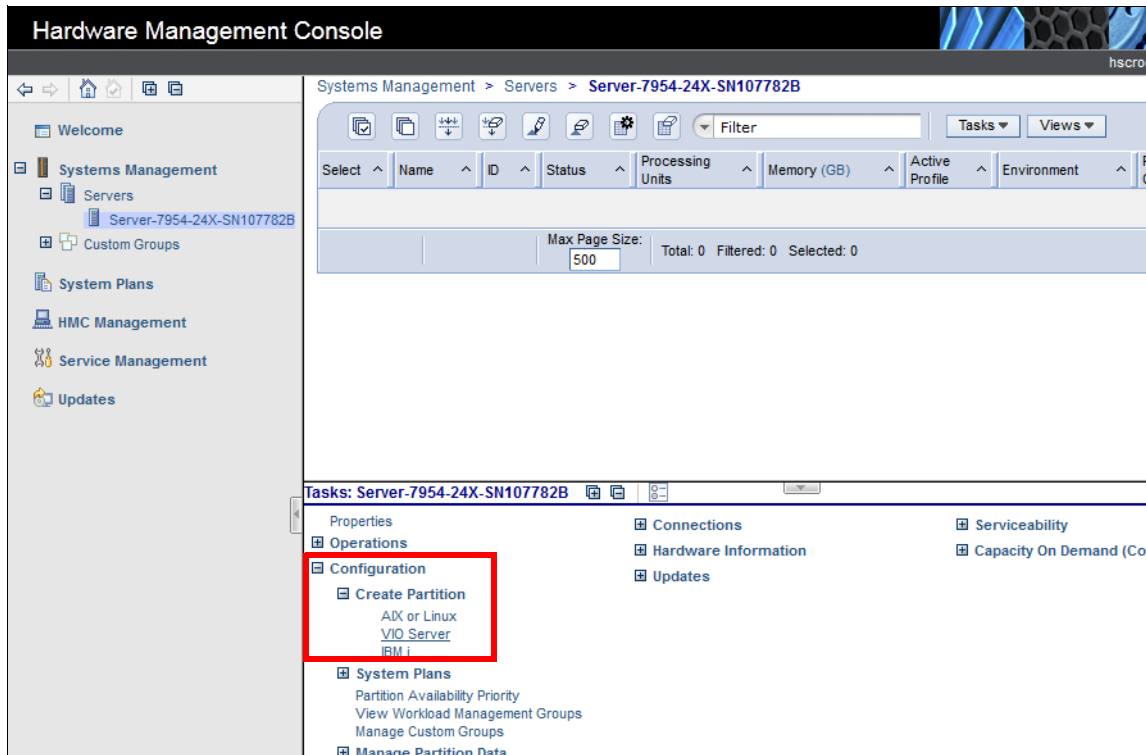

Figure 8-26 Highlighting the Manage Power Systems Resources plug-in
- From the left-side navigation area, expand the Servers options and click the wanted server or managed system. The Server page opens in the work pane area. Figure 8-26 shows the list of LPARs that are defined for the managed system.